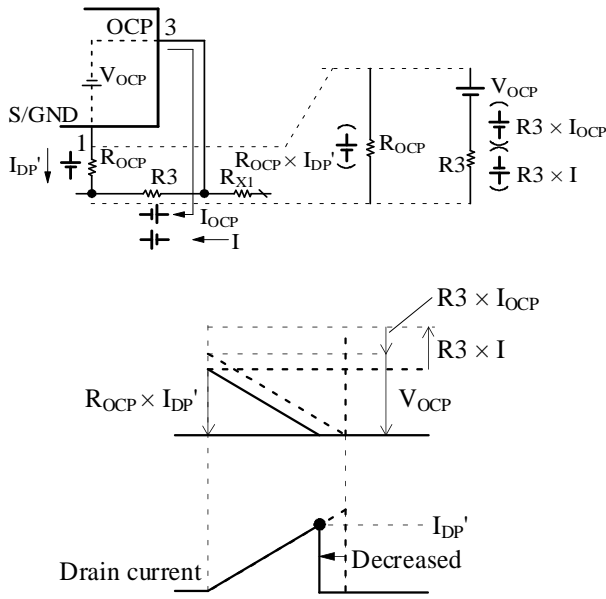

Figure 8-30. With OCP Input Compensation Function
When V_{ROCP}' with reference to the S/GND pin becomes equal to the sum of V_{OCP} , the voltage across R3 (i.e., $R3 \times I_{OCP}$), and $R3 \times I$, OCP is activated (see Figure 8-30).
The peak drain current during OCP operation with OCP input compensation circuit, $I_{DP(OCP)'}$, is expressed by Equation (11) obtained from Figure 8-30: